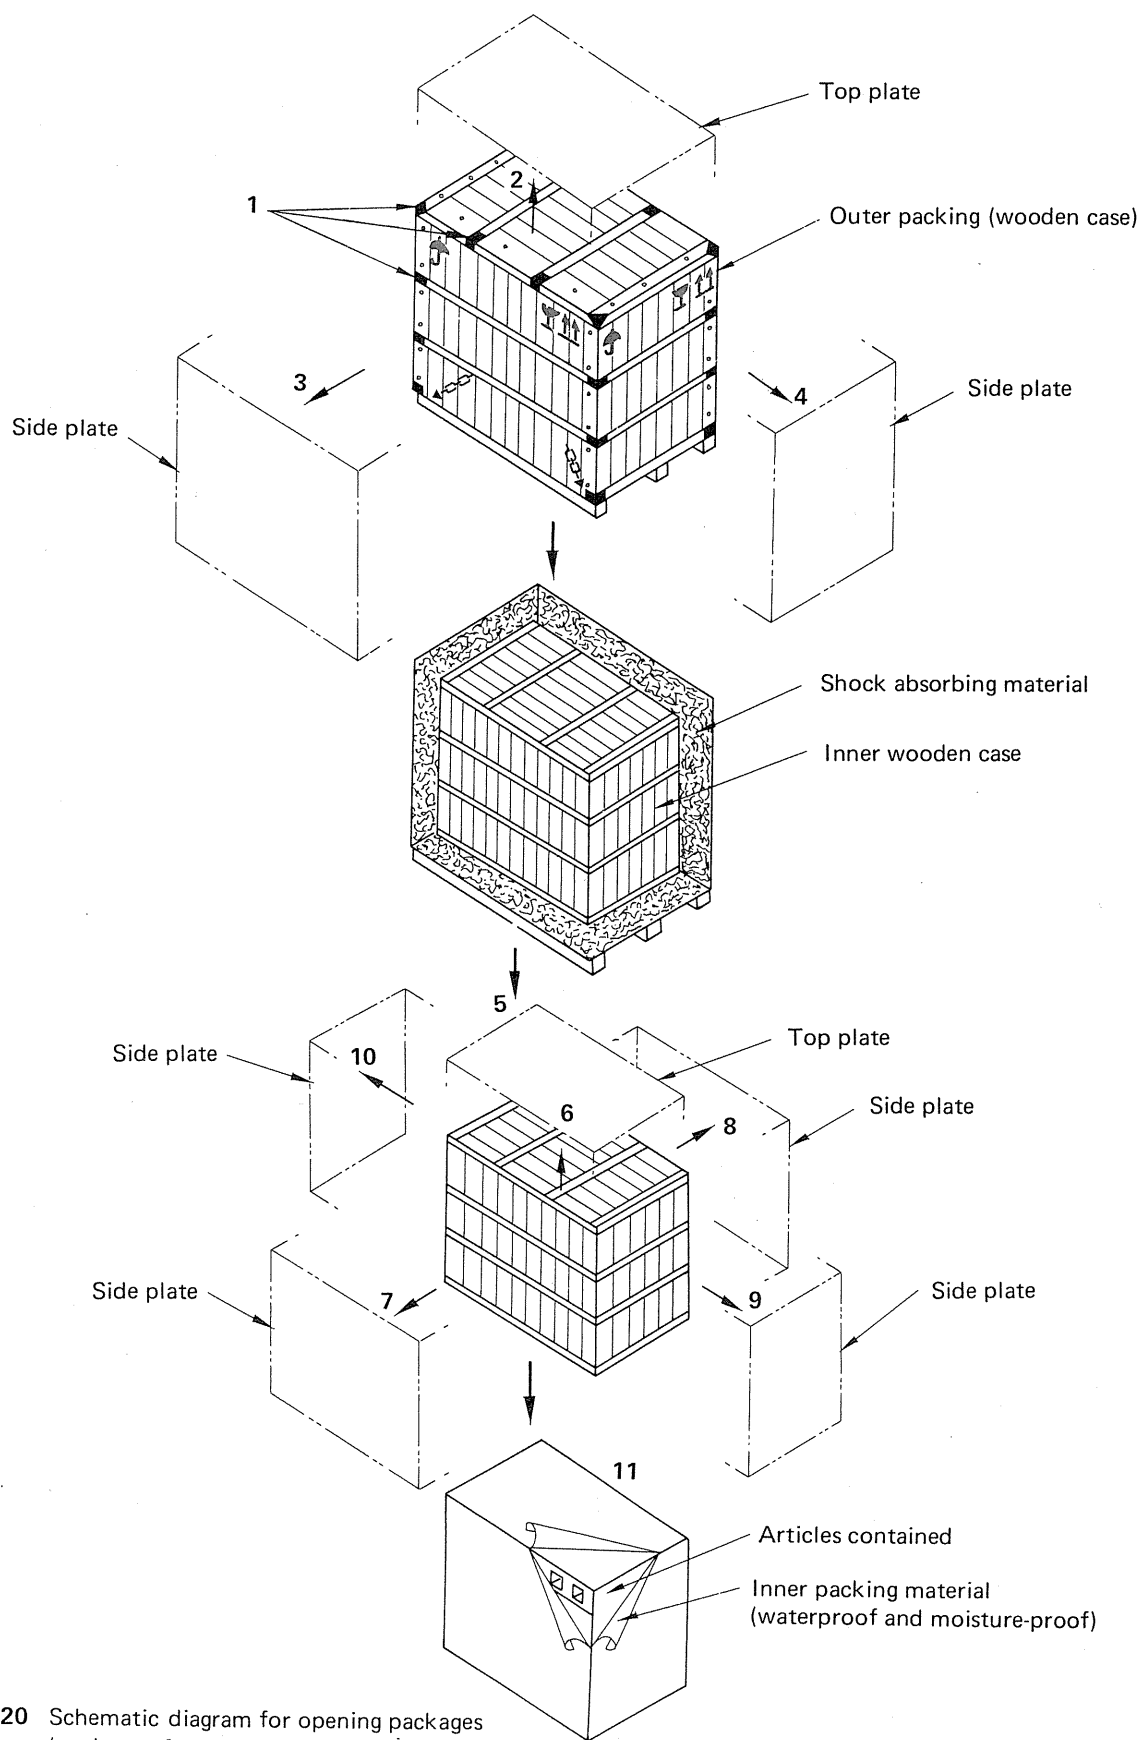

Fig. 20 Schematic diagram for opening packages (packages for main body, tables and racks)
- Open the packages slowly using the specified tools (drivers, wrenches, tinman's shears and bars) and in the order shown in Figs. 20 and 21.